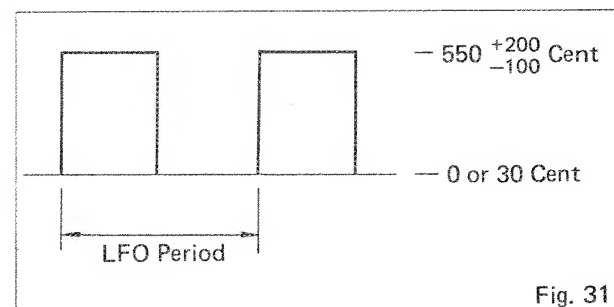

Fig. 31
3. Set $\sim/\nearrow/\sqcap$ W-VCA and WHEEL-VCO (hereinafter referred to as W-VCO) to $\sqcap$, OFF, and ON, respectively. At that time, waveforms as shown in Figure 31 should be obtained. Set W-VCO and RESONANCE of the VCF section to OFF and H, respectively. And bring CUT OFF FREQUENCY switch down to a position where a waveform indicated in Figure 5 is obtained. After that, set RESONANCE to L.